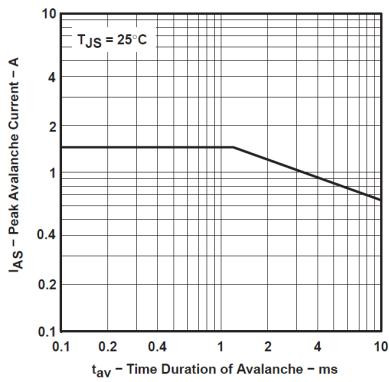

Figure 5-1. Peak Avalanche Current vs. Time Duration of Avalanche
(1) Operation outside the Absolute Maximum Ratings may cause permanent device damage. Absolute Maximum Ratings do not imply functional operation of the device at these or any other conditions beyond those listed under *Recommended Operating Conditions*. If used outside the Recommended Operating Conditions but within the Absolute Maximum Ratings, the device may not be fully functional, and this may affect device reliability, functionality, performance, and shorten the device lifetime.
(2) All voltage values are with respect to network ground terminal GND.
(3) Pulse duration $\leq 100\mu s$, duty cycle $\leq 2\%$
(4) DRAIN supply voltage = 15V, starting junction temperature (T_{JS}) = $25^\circ C$, $L = 100mH$, $I_{AS} = 1A$ (see Figure 5-1).
(5) See Dissipation Table